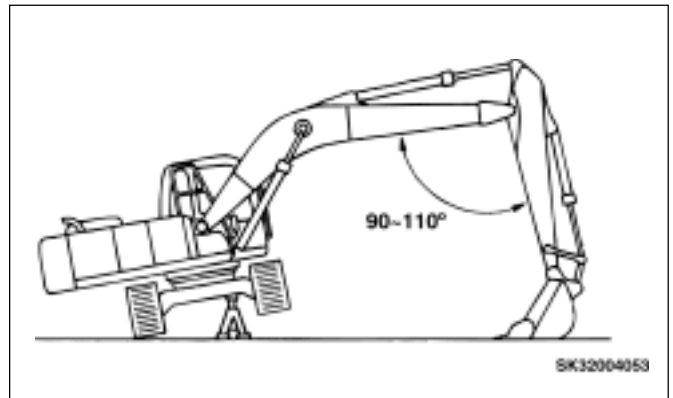

FIGURE 4.20A
1. Operate swing, arm, bucket and boom controls until machine is set up as shown in Figure 4.20A.
3. To increase track tension, set machine as shown in Figure 4.20A and with grease gun inject extreme pressure No. 2 grease into idler adjustment grease fitting until proper tension is reached. See Figure 4.20C. Perform this procedure on both tracks.